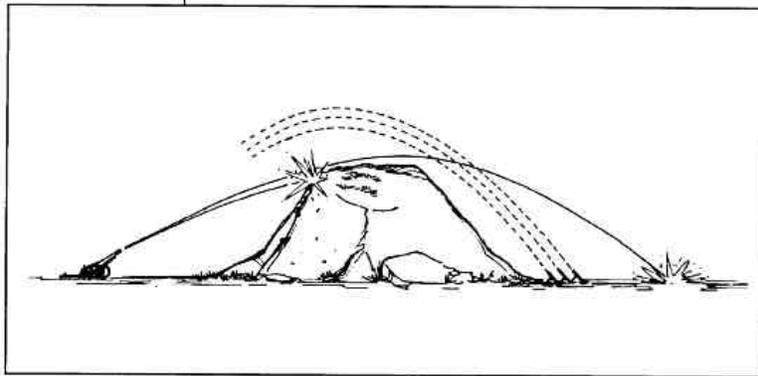

Figure 6-3. Defilade.
- Cannot be hit by direct or low-angle indirect fire (defilade) (Figure 6-3).